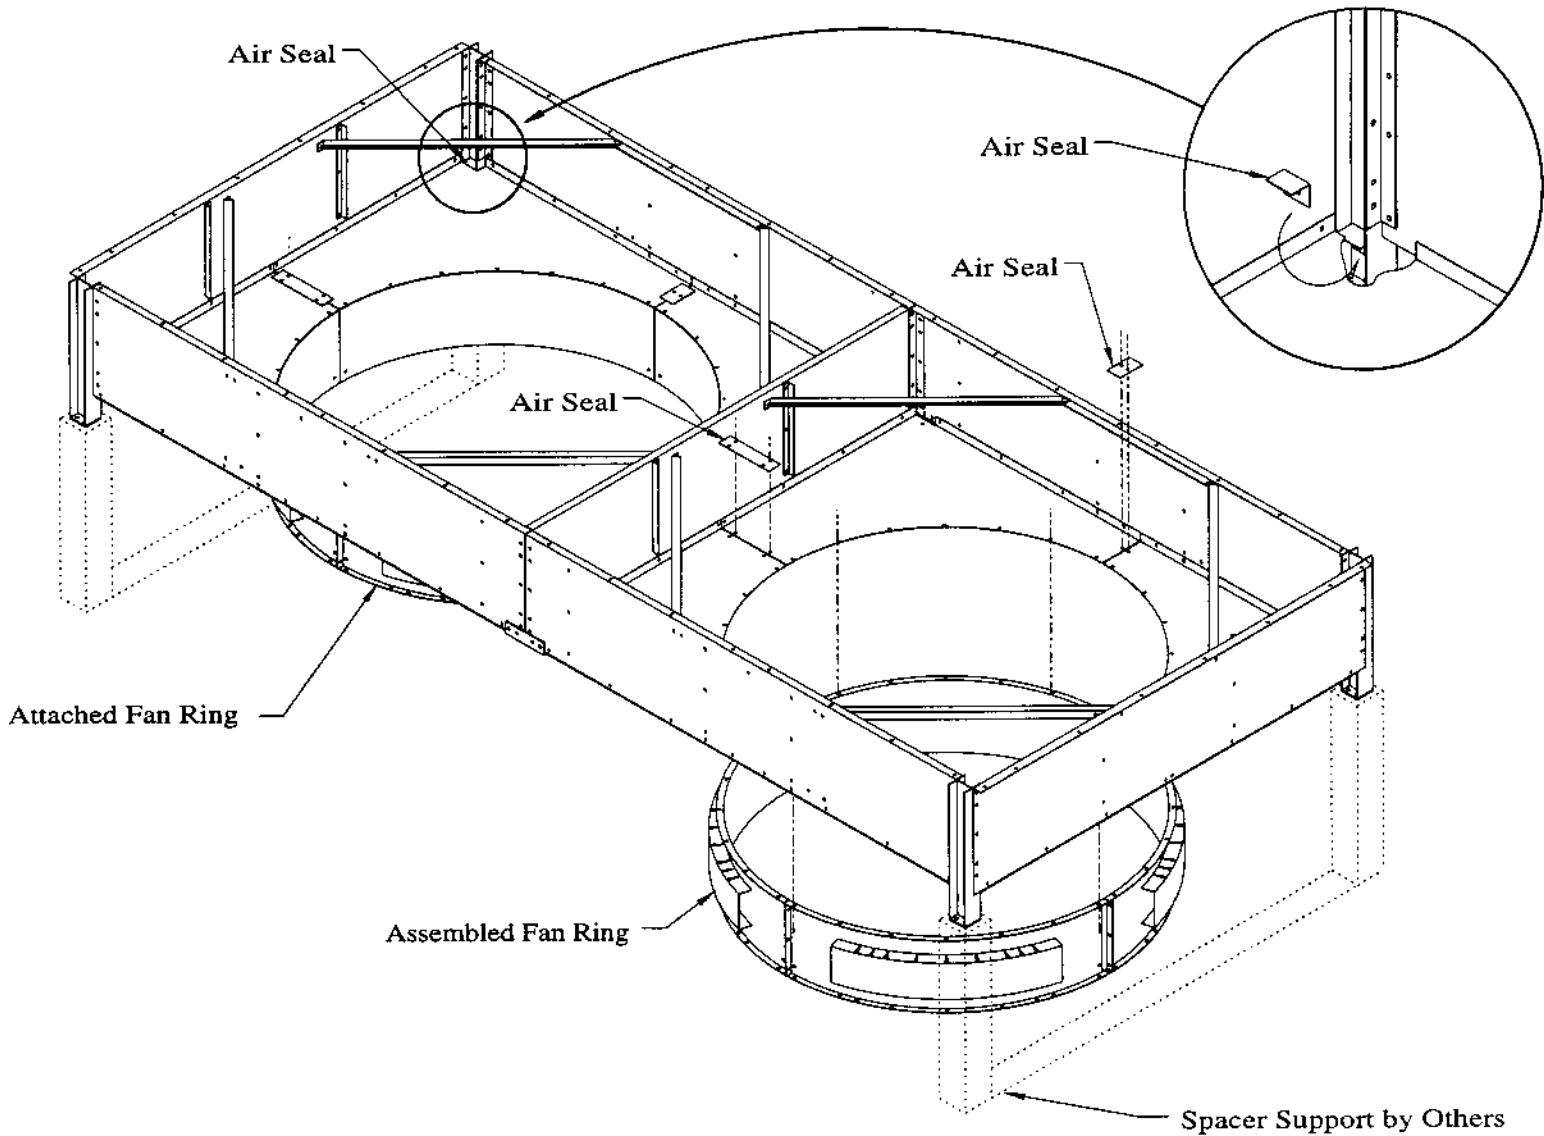

FIG. B3 - FAN RINGS AND AIR SEALS
4. Assemble four pieces of fan ring. Assemble fan ring to bottom panels. Attach air seals to bottom panels. See Fig. B3.